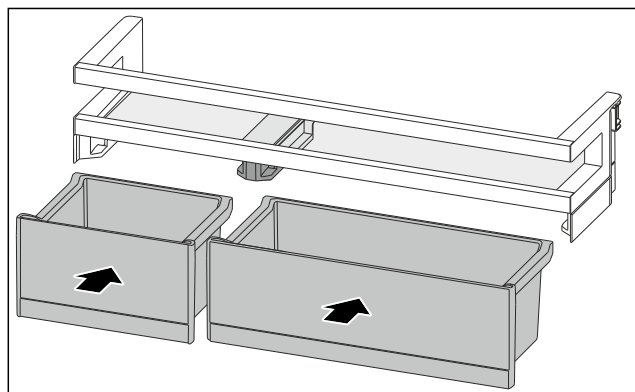

Fig. 185
- ▶ Insert the VarioBoxes in reverse order. (see Fig. 185)